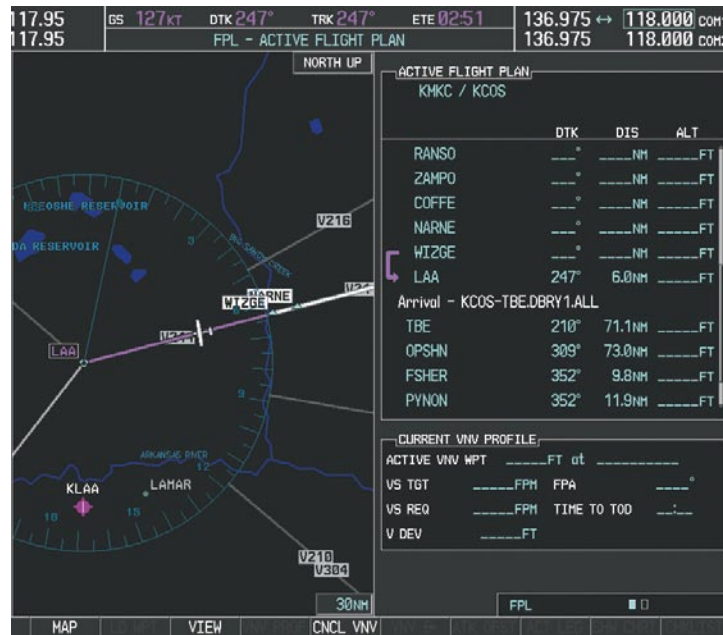

Figure 5-115 HYS to LAA Leg Active
10) At Lamar VOR (LAA) V263 is intercepted. See Figure 5-115.